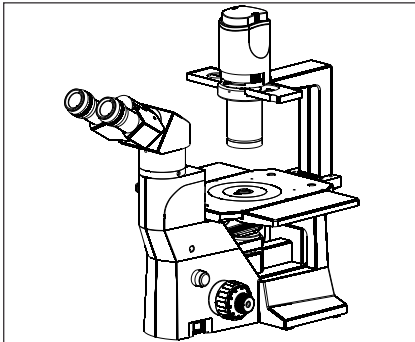

Fig. 1
2. To avoid potential electrical hazards when replacing halogen bulb, turn the microscope's main switch to the OFF position and disconnect power cord from wall outlet in advance. Whenever you replace your microscope bulb, allow lamp socket and bulb to cool before touching (Fig. 1)